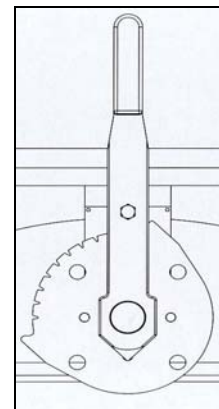

Figure 3.
6. Using (2) c-clamps, rotate the notch plate into the closed position and tighten the clamps. See fig 3.
9. Using ¼" drill bit, drill (4) holes in the back plate using the marked holes from step 9.
10. Install the (4) screws and lock nuts and tighten down.